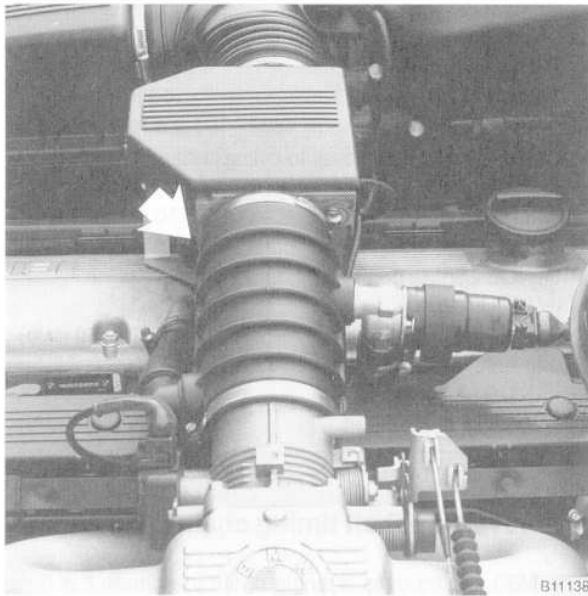

Fig. 22. Intake air boot to be removed (arrow).
4. Loosen the intake air boot hose clamps at the intake manifold, the air flow sensor, and the air cleaner. Remove the boots while disconnecting any hoses or fittings in the boots. See Fig. 22.